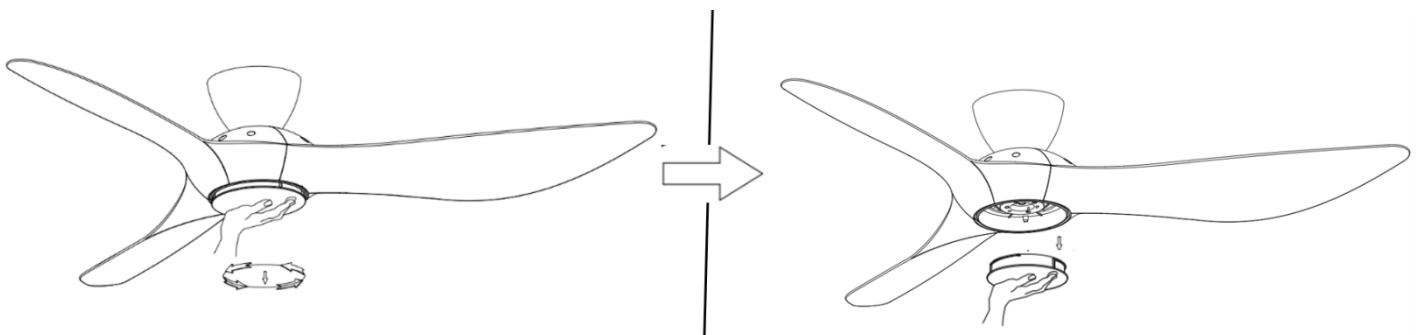

Fig. 10
- If a lamp (not included, sold separately) is required, remove the bottom cover from the fan assembly by turning counterclockwise. (Fig.10)
INSTALLATION OF THE REMOTE CONTROL HOLDER (Fig. 10)